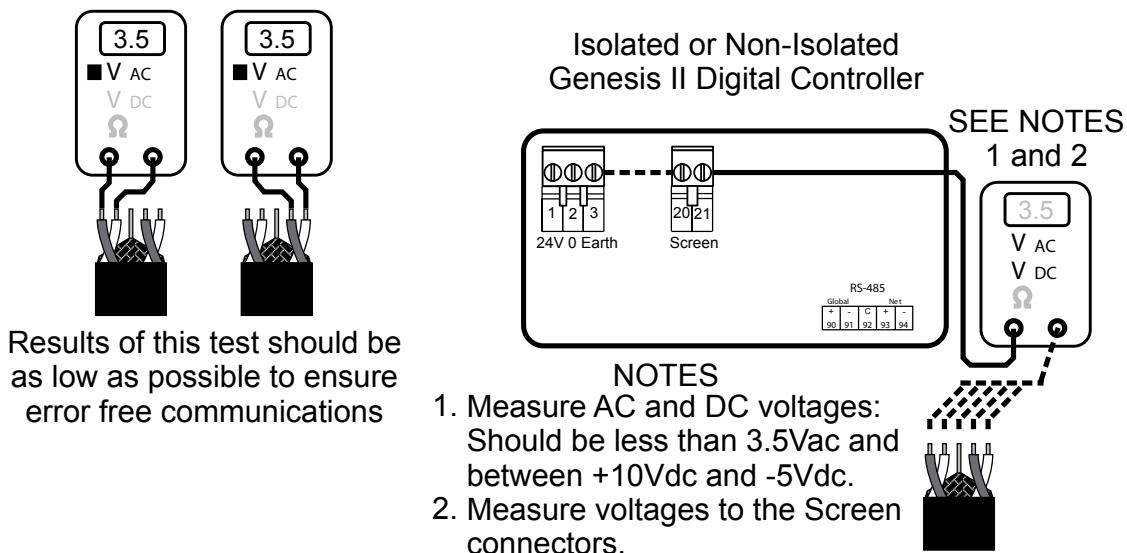
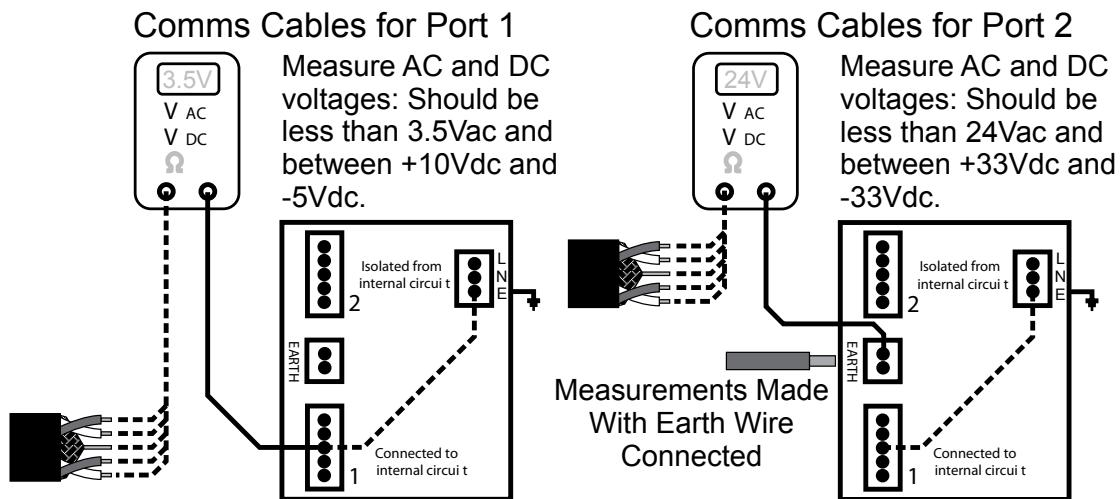

Figure 5-19: Voltage Check, Isolated/Non-Isolated Digital Controller
Figure 5-21: Voltage Check, Innotech Repeater
5. Before connecting the network cable to the selected device, check if there is a voltage difference between the test points on the cable and the device as shown in Figure 5-19 through to Figure 5-21, as appropriate.
6. If the voltages are less than the values shown in Figure 5-19 through to Figure 5-21, then connect the network cable(s), including the screen to the device selected in Step 4, above.
9. Before connecting the network cable to this next device, check if there is a voltage difference between the test points on the cable and the device as shown in Figure 5-19 through to Figure 5-21, as appropriate.
10. If the voltages are less than the values shown in Figure 5-19 through to Figure 5-21, then connect this section to the device. If the cable is looping onto the next device, test the next section of network cable before connecting the cables.